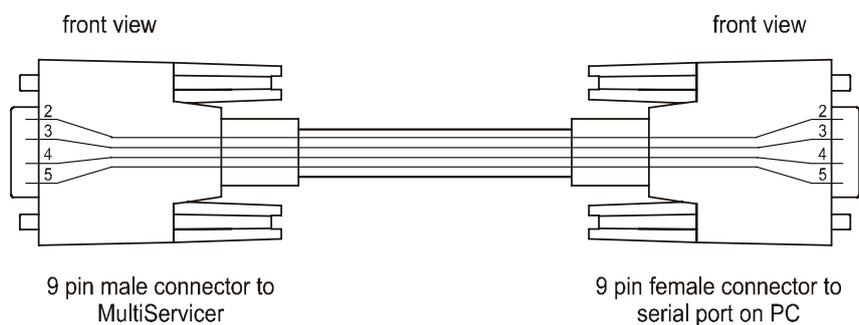

Fig. 62. RS 232 communication cable
- STEP 1.** Connect MultiServicer to PC as shown in fig. 62 using appropriate RS 232 communication cable.